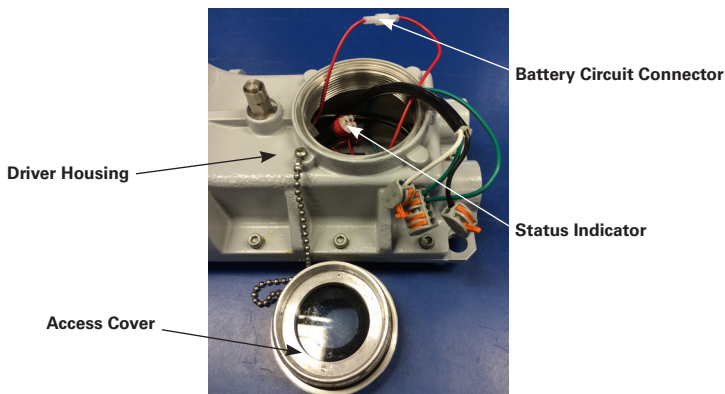

Figure 7
- Open the threaded wiring access cover (see Figure 7) and allow the cover to hang by the lanyard. All components in the emergency luminaire are pre-wired so only input power needs to be connected in the fixture to the lead wires (or terminals) per the wiring diagram (see Figure 9) using methods that comply with all applicable codes. Terminate the equipment grounding conductor (green) first, the common (white) next, and finally, the line voltage (black) last. Tighten all electrical connections. Note - Standard openings are 3/4" NPT.